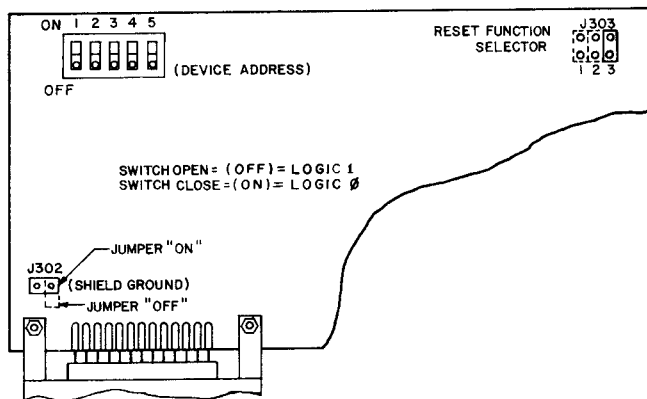

FIG. 2-2 IEEE 488 INTERFACE BOARD ON THE COMPUTER BOARD OF THE TLD 488-16, DEVICE ADDRESS SELECTOR DETAILS.
STEP 2: Carefully remove the COMPUTER BOARD from the lowest slot in the TLD 488-16, using the BOARD EJECTORS. Note that the COMPUTER board actually occupies the two bottom slots, due to its "piggy-back" construction. The four progressively higher slots are designated SLOT 1, 2, 3 and 4, with SLOT 4 being the highest in the TLD 488-16 card cage. Locate the IEEE 488 INTERFACE board with the DEVICE ADDRESS SELECTOR. This subassembly is the larger of the two "piggy-back" boards on the COMPUTER BOARD. The selector is a DIP switch, as indicated in FIG. 2-1 and detailed in FIG 2-2. The factory set device address is 6. For other choices select and set the device address according to Table 2-1.
- STEP 3: Locate the RESET FUNCTION SELECTOR in FIG. 2-2 and place jumper into the position desired: (RESET FUNCTION should not be confused with "CIL" op-code RST (Reset) as defined in Section III of this manual).
- STEP 4: Locate the SHIELD GROUND SELECTOR in Fig.2-2 and place jumper in position "ON" (shields on the IEEE 488 connector connected to common) or in position "off" (shields not grounded). The factory set position is "ON".
- STEP 5: Carefully, re-insert the COMPUTER BOARD into the lowest slot (A) in the TLD 488-16, closing the BOARD EJECTORS. **NOTE:** The DEVICE ADDRESS of the TLD 488-16 serves as the LISTENER as well as the TALKER address on the IEEE bus.